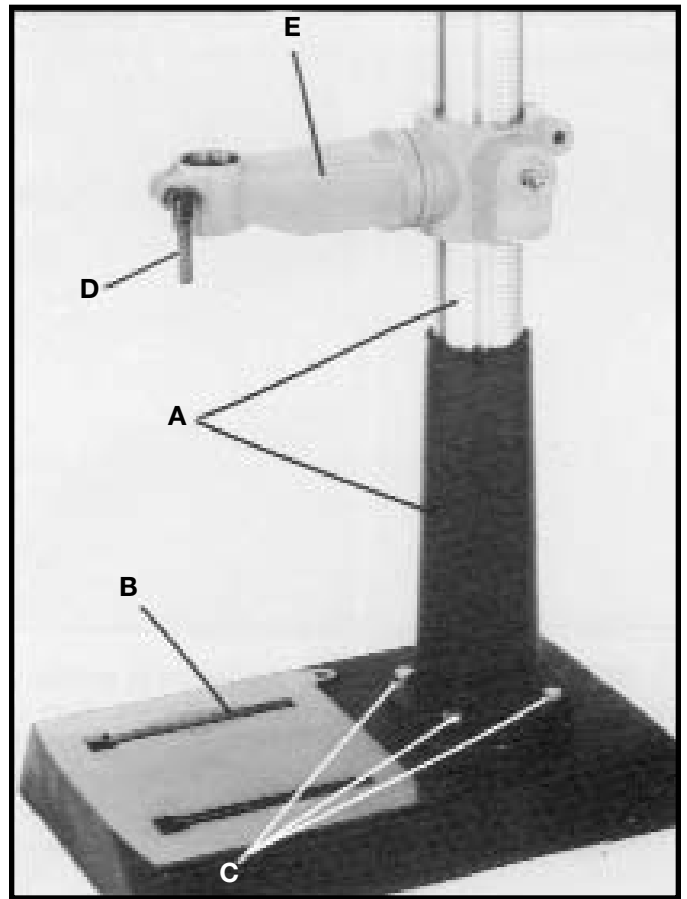
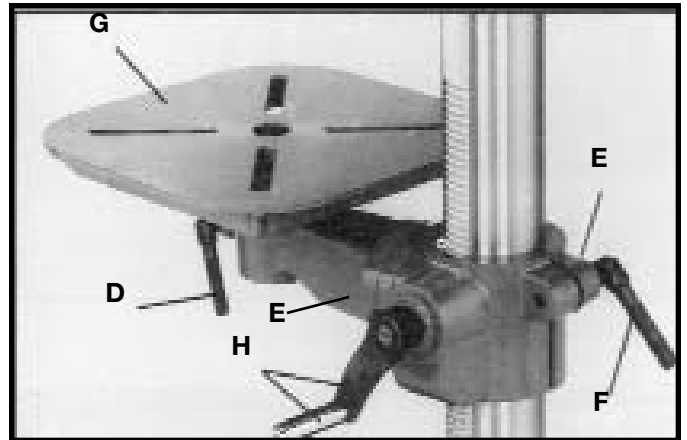
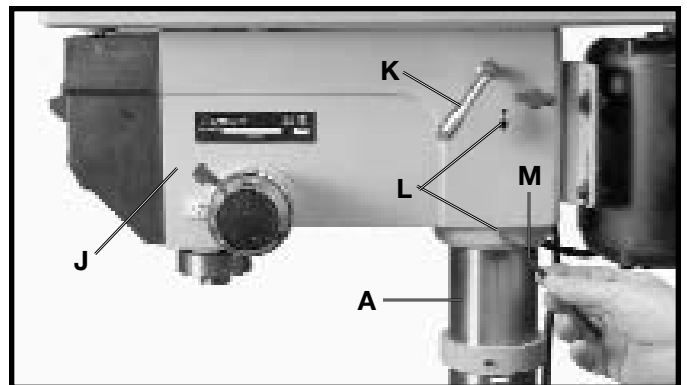

Fig. 4
Fig. 5
Fig. 6
1. Assemble column (A) Fig. 4, to base (B) using four 1-3/4" long screws (C), three of which are shown. Loosely thread locking lever (D) into table mounting bracket (E), as shown. Loosely thread remaining locking lever (F) Fig. 5, into split of table mounting bracket (E).
2. Insert table (G) Fig. 5, into table mounting bracket (E) and tighten lever (D) to lock table in position. Tighten locking lever (F) Fig. 5, to lock table raising mechanism on the column.
3. Assemble table raising and lowering handle (H) Fig. 5, to table mounting bracket (E). Align the set screw on handle (H) with the flat on the shaft extending from the mounting bracket and tighten securely with the 3mm hex wrench supplied with the tool.
4. Carefully position drill press head (J) Fig. 6, onto column (A) as far as it will go. Align drill press head (J) Fig. 6, and table (G) Fig. 5, with the base of the drill press, which was assembled in **STEP 1**, and tighten locking lever (K) and set screws (L) with the 5mm hex wrench (M) supplied.